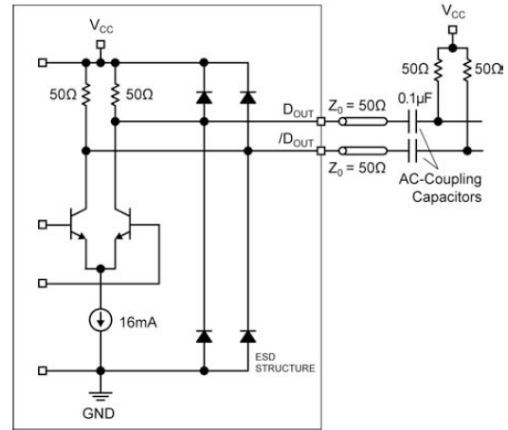
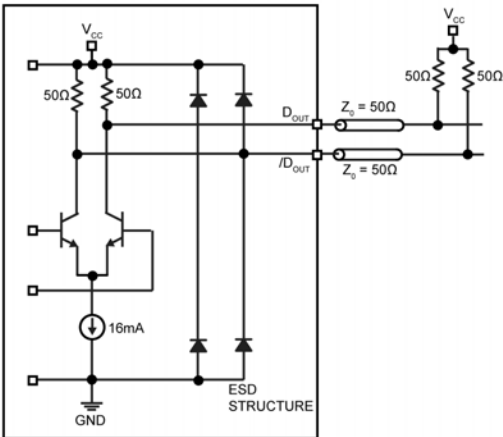

Figure 3a. Simplified Output Structure with AC-Coupled Termination
Figure 3b. Simplified Output Structure with DC-Coupled Termination
- $V_{OL}$  and  $V_{OH}$  are measured with outputs loaded with 50 Ohms as shown in Figure 3b and  $V_{OD}$  is measured in accordance with Figures 3a and/or 3b.